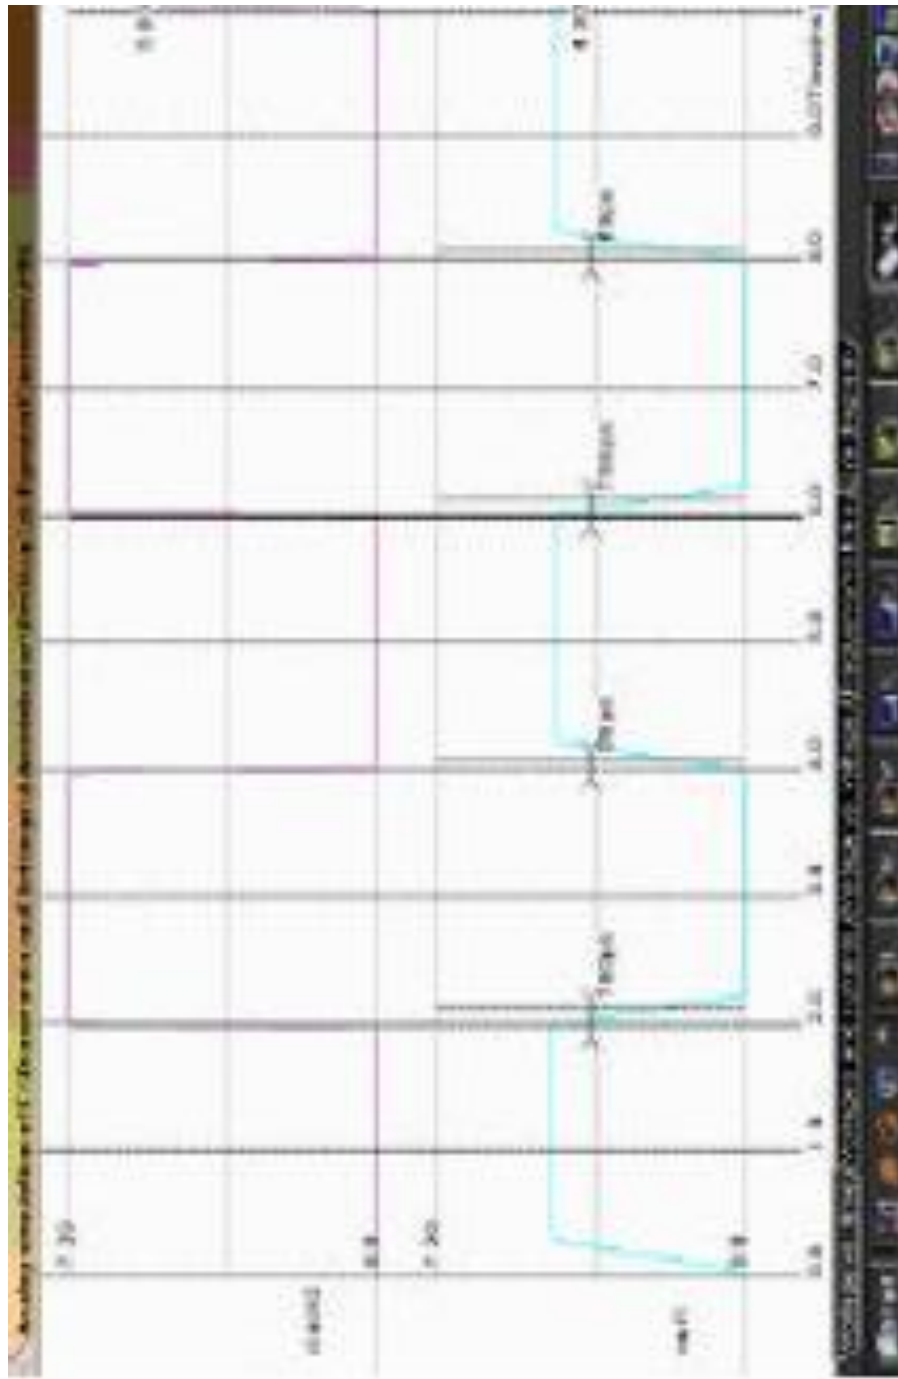

Figure 15: Inverter Output
- The output waveform is shown in the given figure: 15